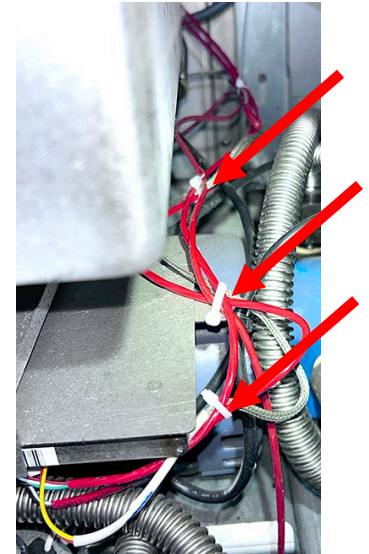

Figure 9
12. Use ty wraps to secure the harness to the VIB board and other harnesses. Route the other end to the front of the fryer (see Figure 9). Ensure the harnesses aren't touching flexlines or pump motor.